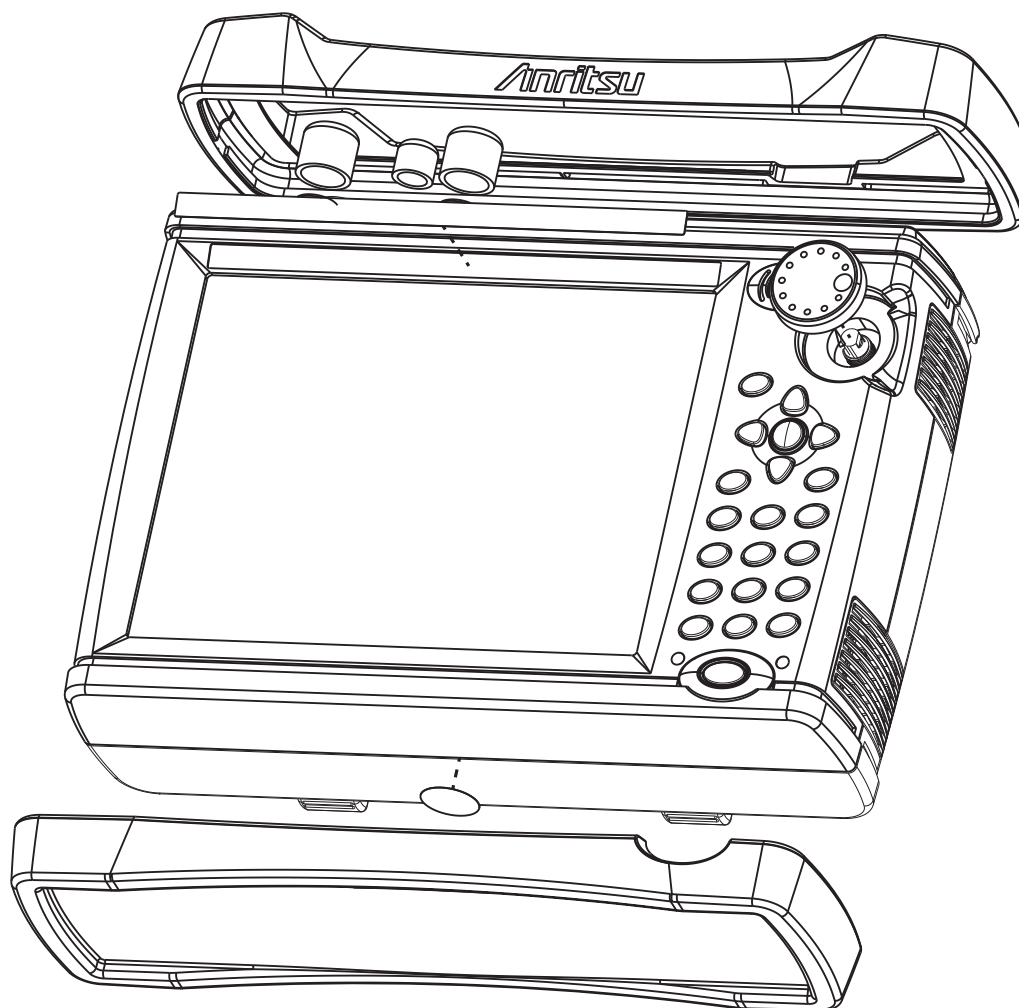

Figure 6-11. Removal of Bumpers and Rotary Knob
2. Remove the top and bottom bumpers (Figure 6-11) to expose the screw holes on the back of the unit. Pull on a corner of each rubber bumper to stretch and disengage the rubber from the case.